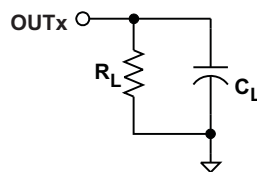
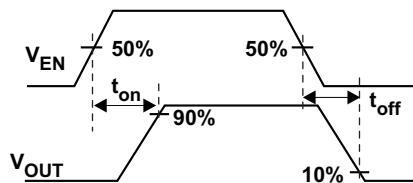
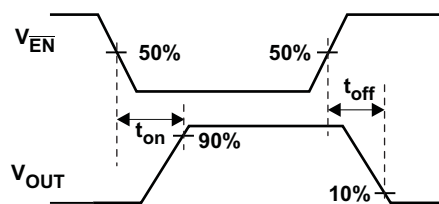

Figure 23. Output Rise / Fall Test Load
Figure 25. Enable Timing, Active High Enable
Figure 26. Enable Timing, Active Low Enable
| $t_{on}$   | Turnon time (3)                         | $V_{IN} = 5\text{ V}$ , $C_L = 1\text{ }\mu\text{F}$ , $R_L = 100\text{ }\Omega$ , ENx $\uparrow$ or $\overline{ENx}$ $\downarrow$ (see Figure 25, Figure 26, and Figure 23)1 A, 1.5 A, 2 A Rated |  | 1.4        | 1.9                | 2.4  | ms            |
| $t_{off}$  | Turnoff time (3)                        | $V_{IN} = 5\text{ V}$ , $C_L = 1\text{ }\mu\text{F}$ , $R_L = 100\text{ }\Omega$ , ENx $\uparrow$ or $\overline{EN}$ $\downarrow$ (see Figure 25, Figure 26, and Figure 23)1 A, 1.5 A, 2 A Rated  |  | 1.95       | 2.60               | 3.25 | ms            |